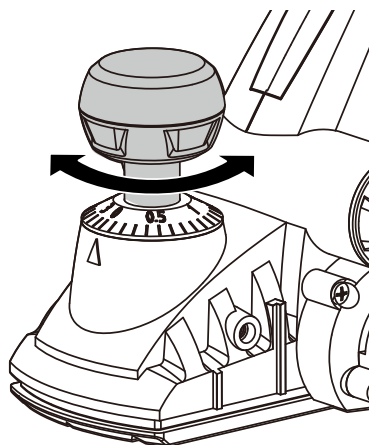

Figure 5
1. CUTTING DEPTH ADJUSTMENT (SEE FIG. 5)